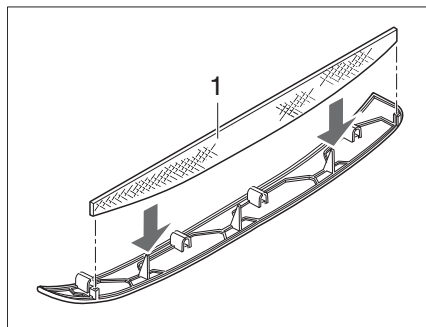
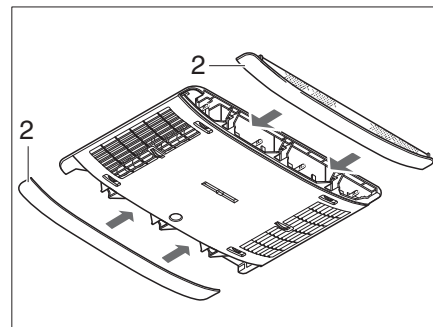

Fig. 164 Lint filter air conditioning unit
Fig. 165 Air conditioning unit panels
Two lint filters are located in the side panels (Fig. 165,2). The lint filters must be cleaned at regular intervals, at least every 6 months however, and replaced if necessary.
- Remove the panels (Fig. 165,2) from the air distribution unit and clean the lint filter (Fig. 164,1) or replace it if necessary.